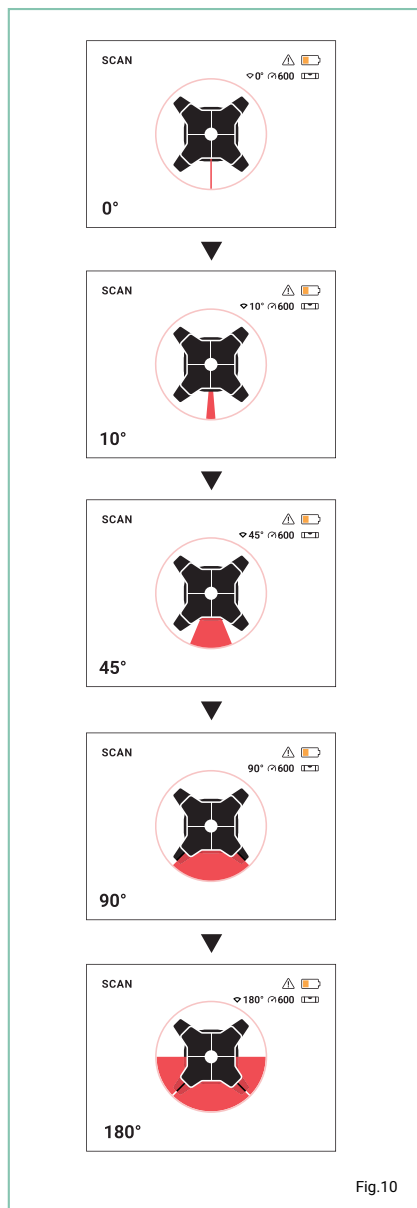

Fig.10
- Pressing the button multiple times will adjust the angle of the beam as follows: 0°, 10°, 45°, 90°, 180° (Fig.10). When the scan range has been set, the following icon will be displayed on the LCD screen on the laser level and remote control with the current angle: **90°**